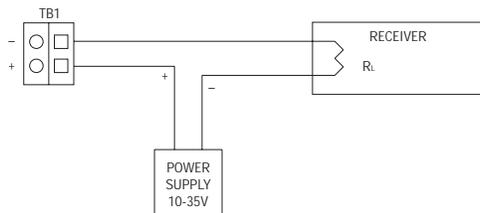
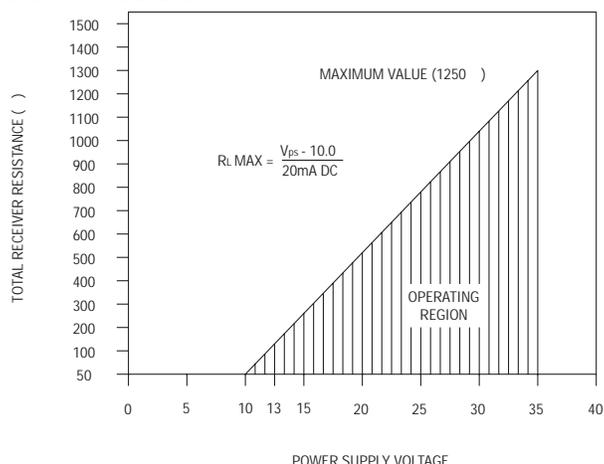

Figure 1
Figure 2
An external power supply delivering 10 to 35 VDC with a minimum current capability of 40 milliamps must be used to power the control loop in which the Magnesense® transmitter is connected. Refer to Fig. 1 for connection of the power supply, transmitter and receiver. The range of appropriate receiver load resistances (RL) for the power supply voltage available is given by the formula and graph in Fig. 2. Shielded two wire cable is recommended for control loop wiring and the negative side of the loop may be grounded if desired. Note also that the receiver may be connected in either the negative or positive side of the loop, whichever is most convenient. Should polarity of the transmitter or receiver be inadvertently reversed, the loop will not function properly but no damage will be done to the transmitter